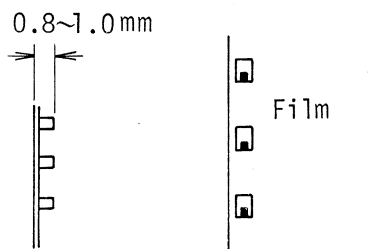

Fig. 11
- (a) Loosen two screws fixing the cam to the shutter shaft and adjust the click at the maximum height of 0.8-1.0 mm from the gate. (Fig. 11)
(c) Against the gate on either side with the click in any place, not to hit the perforation, with super film set to gate and the shutter shaft rotated. (Fig. 11)